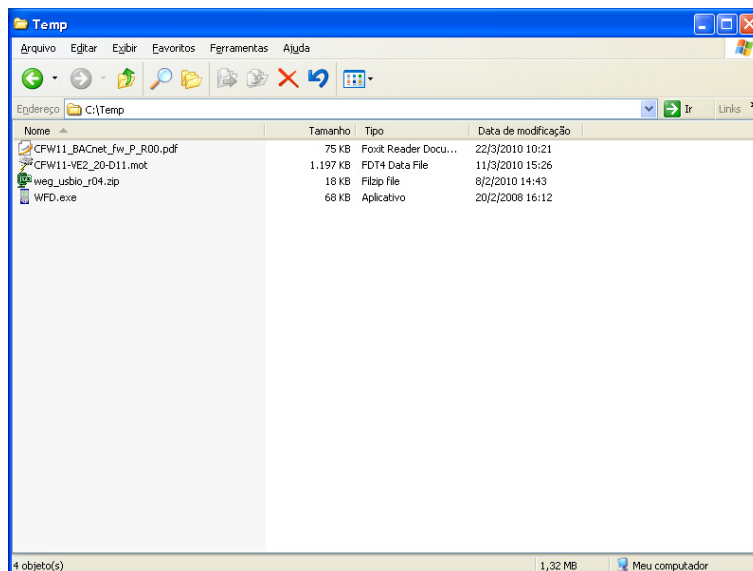

Figure 1.1– Files for firmware update
- 1 Unzip the file CFW11_BACnet_fw_P_R00.zip as Figure 1.1.